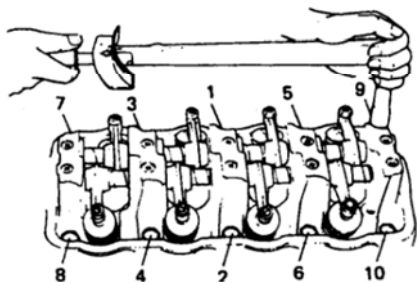

Fig. 1.4-3
(1) When checking cylinder head bolt, valve cover must be dismantled. The tightening torque of cylinder cover bolt is 55-60 N • m (5.5-6.0kg • m).
(2) When fastening cylinder head, cylinder gasket should be under the even stress. The sequence of screwing bolts is shown in Fig. 1.4-3.